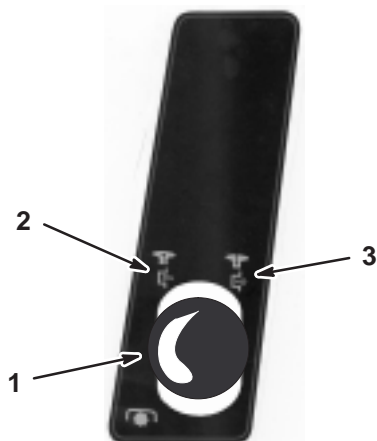

Figure 10
4. Disengage the PTO (Fig. 10).